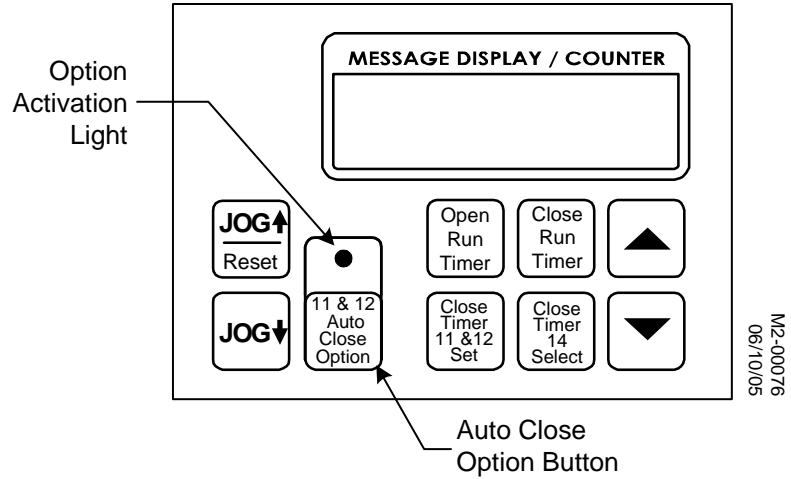

Figure 3-21: Auto Close Option Button
4. Press the **11 & 12 Auto Close Option** button. The light on the Auto Close option shines. This indicates that the Auto Close option is now active. See Figure 3-21.